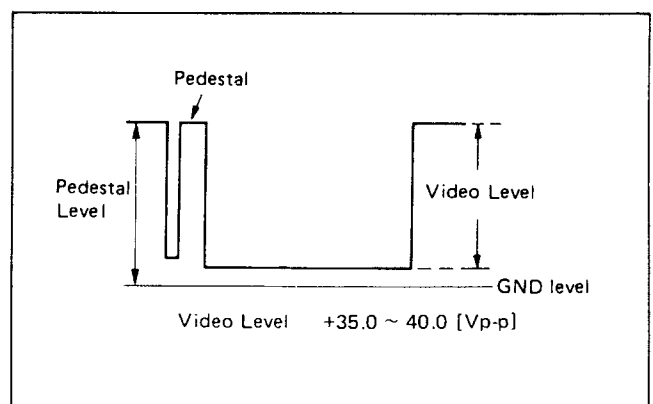

Fig. 2-1-2
- (3) Connect the oscilloscope probe to TP2 (KR) on the C board.
- (4) Vary RV401 on the A board and adjust the video level to 40 Vp-p. (See Fig. 2-1-2.)
- (5) Connect the oscilloscope probe to TP1 (GIR) on the C board.